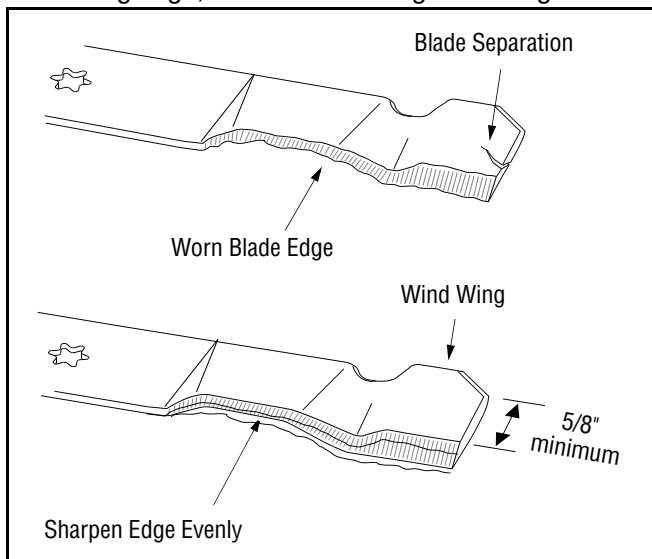

Figure 23
- To properly sharpen the cutting blades, remove equal amounts of metal from both ends of the blades along the cutting edges, parallel to the trailing edge, at a 25° to 30° angle. See Figure 23.
IMPORTANT: If the cutting edge of the blade has already been sharpened to within 5/8" of the wind wing radius, or if any metal separation is present, replace the blades with new ones. See Figure 23.